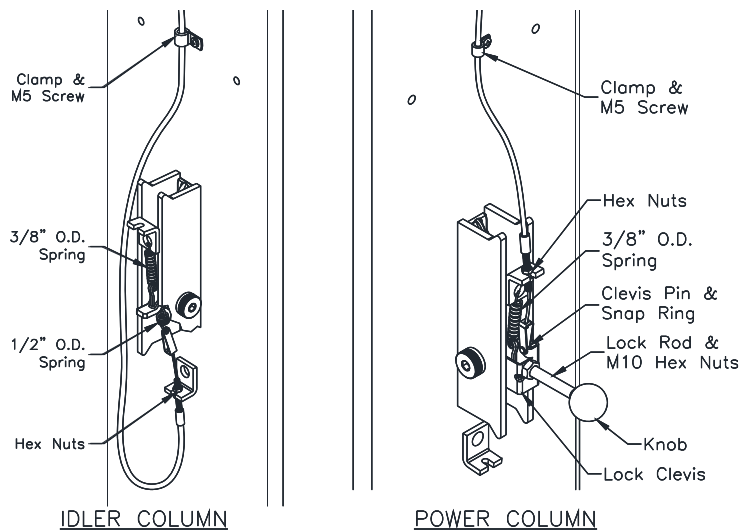

Fig. 8 – Lock Assembly
- 30) Attach Mechanical Lock Release Cable Assembly to each lock pawl. See **Fig. 8**.